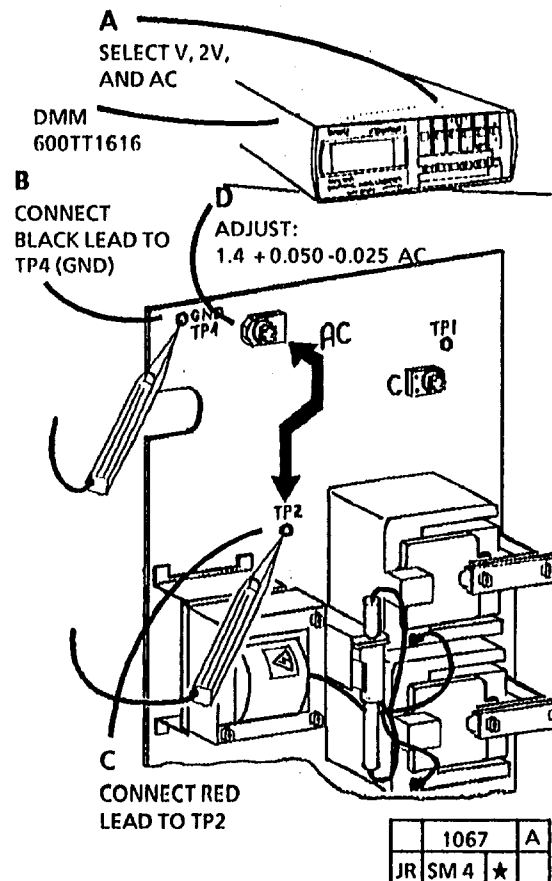

Figure 4. Adjustment of Precharge and Detack Corotrons
13. (Figure 4): Adjust precharge and detack corotron voltage